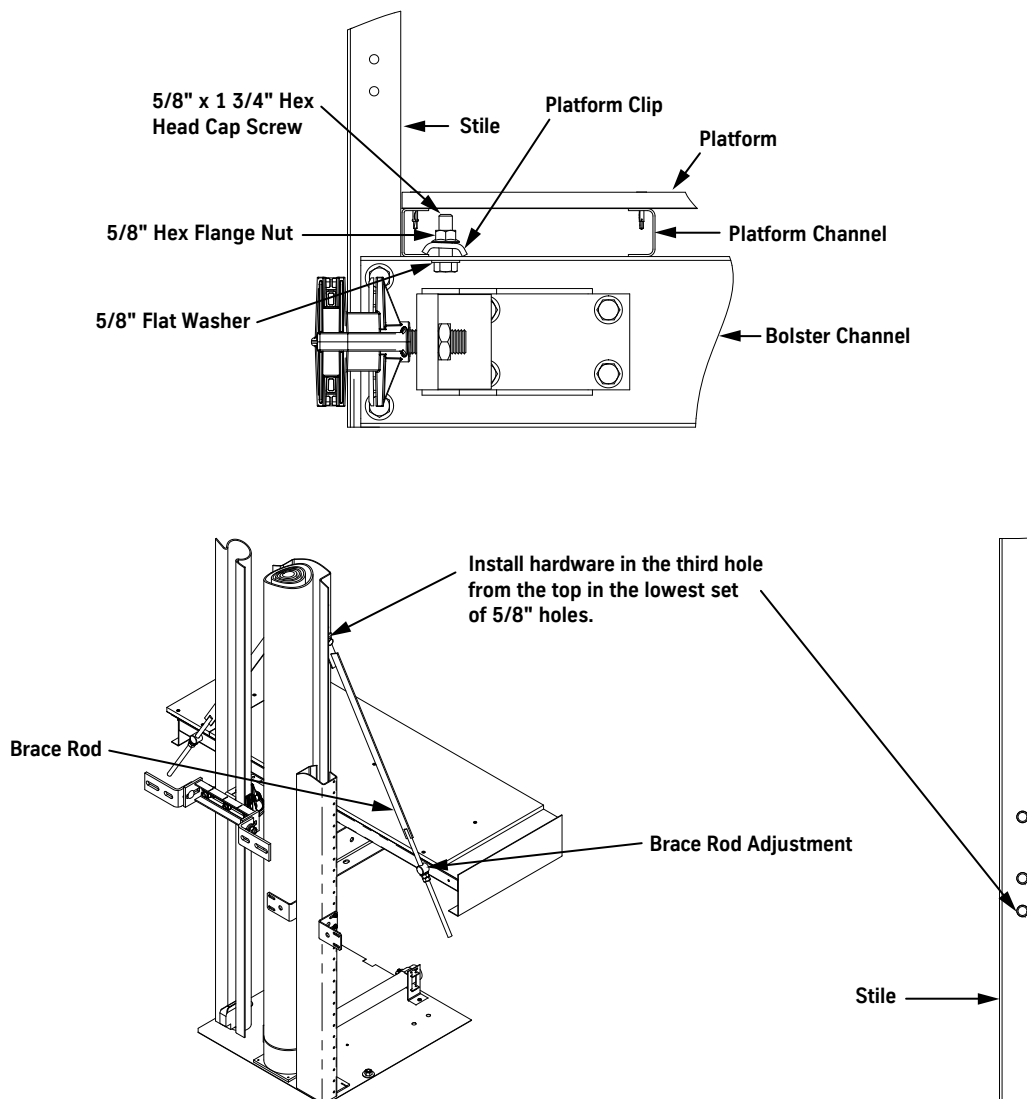

Figure 67- Platform and Brace Rod Installation
1. Hoist the platform into place, and install the clips and bolts between the platform channels and the tops of the bolster channels. See Figure 67.